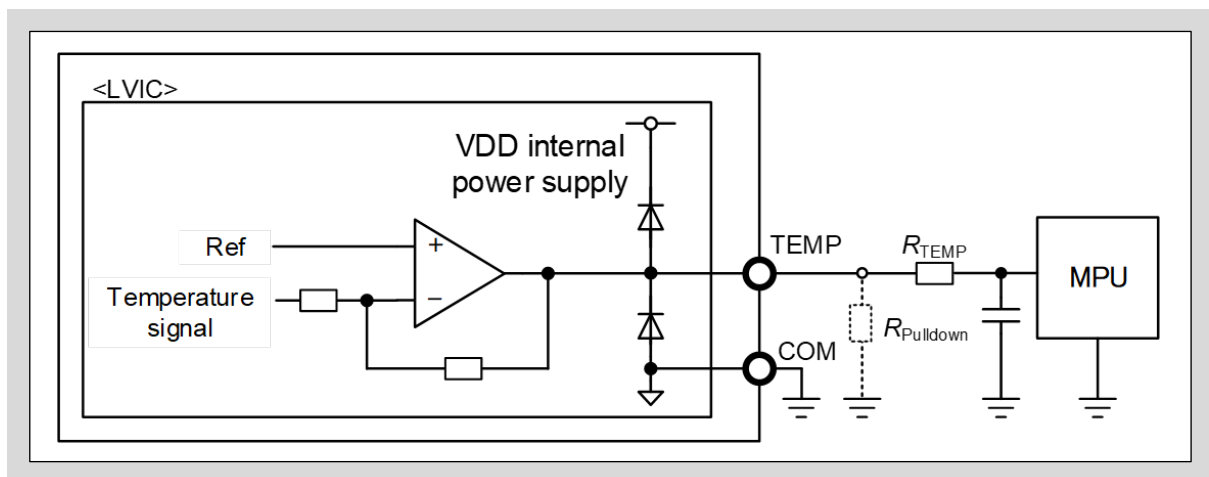

Fig. 3-23 Recommended MPU I/O interface circuit of TEMP terminal
- As shown in Fig. 3-23, the temperature output terminal TEMP can be connected directly to the MPU. It is recommended to connect a bypass capacitor  $C_{TEMP}$  and an inrush current limiting resistor  $R_{TEMP}$  of 10k $\Omega$  or more between the MPU and the TEMP terminal. These signal lines should be as short as possible.
- This product has a built-in temperature sensor in LVIC that outputs analog voltage according to the LVIC virtual junction temperature. This function has no fault status output because it is not intended to protect the product. "6MBP \*\* XTC065-50" has built-in overheating (OH) protection. Fault status output is generated when the temperature exceeds  $T_{OH}$ .
- As shown in Fig. 3-23, a diode is connected between the TEMP-COM terminals. This diode is built-in to protect the product from input surge voltage. Do not use this diode for voltage clamp purpose as it might damage the product.